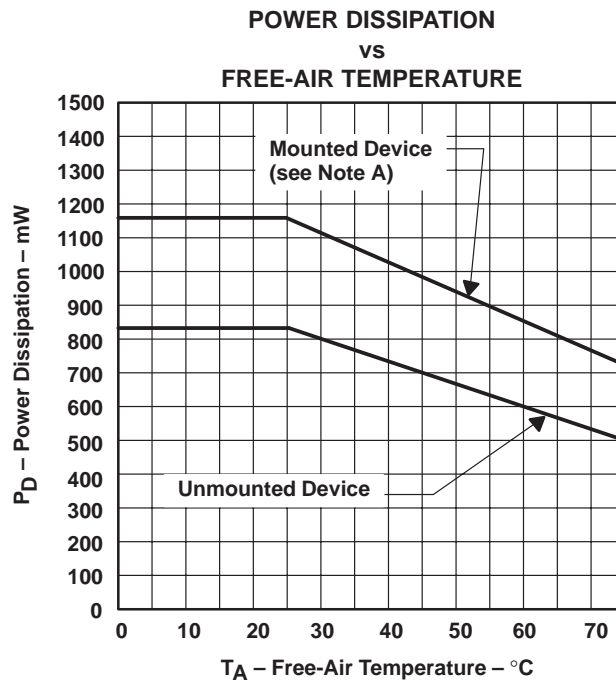

Figure 1
Unmounted device (see Figure 1)	825 mW
Mounted device (see Figure 1)	1150 mW
- NOTE A: The mounted-device derating curve of Figure 1 is obtained under the following conditions: